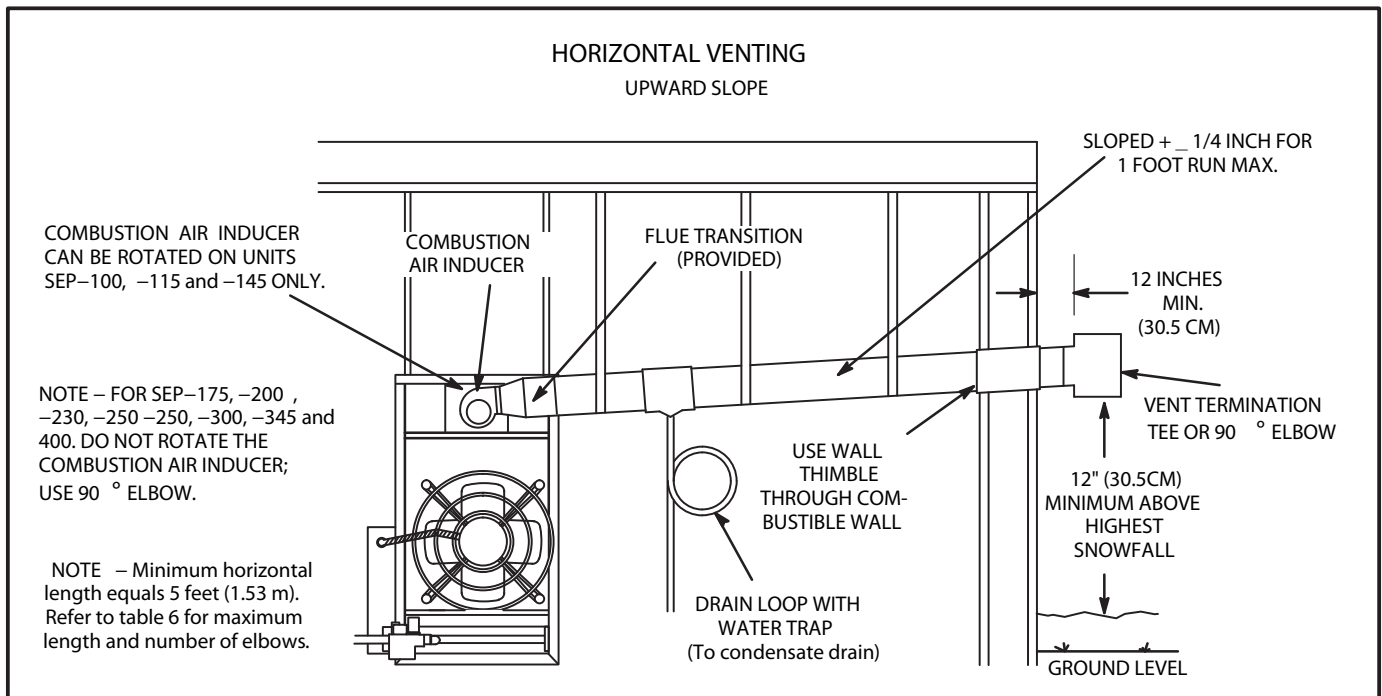

FIGURE 3
If the SEP unit heater is to be horizontally vented, a positive pressure may be created in the vent. The SEP unit heater, when installed with horizontal venting, may perform as a category III appliance. Use single–wall vent material installed according to this section or use listed special vent for Category III appliances. Refer to figures 3, 4, and 5. The minimum horizontal vent length is 5 feet (1.53 m). Refer to table 6 for the maximum horizontal vent length and the number of elbows permitted.
- 9 – For upward sloped vent, see figure 3, condensate tee and drain must be installed within the first 5 feet (1.53 m) from the unit heater to protect the appliance.